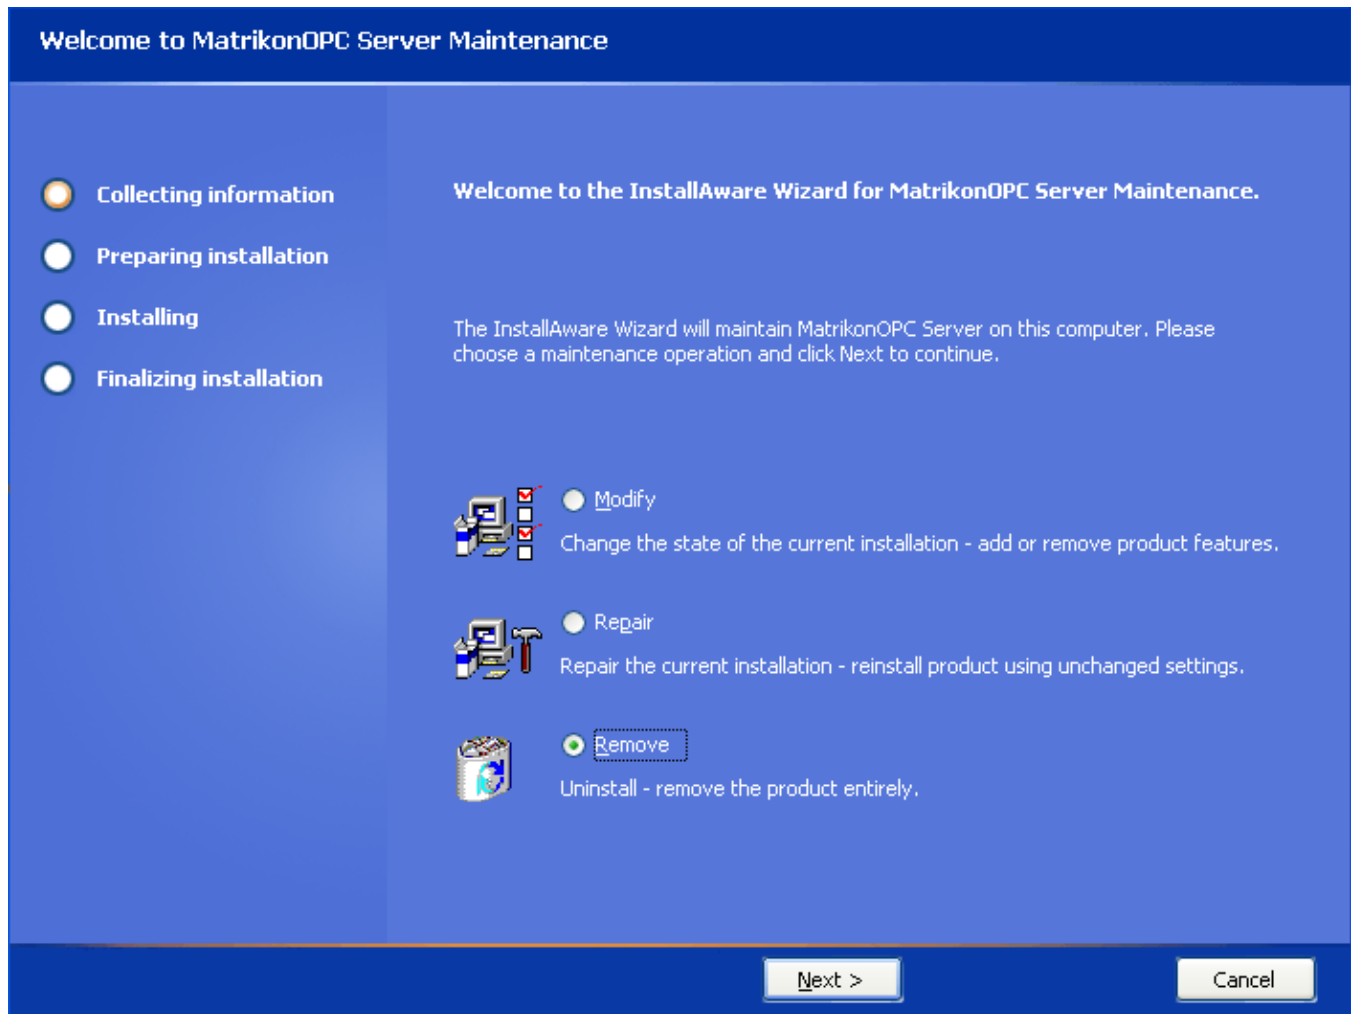

Figure 91 - Welcome to MatrikonOPC Server for GDA Maintenance Screen
6. The **MatrikonOPC Server for GDA – InstallAware Wizard** appears, and the **Welcome to MatrikonOPC Server for GDA Maintenance** screen (Figure 91) is displayed.